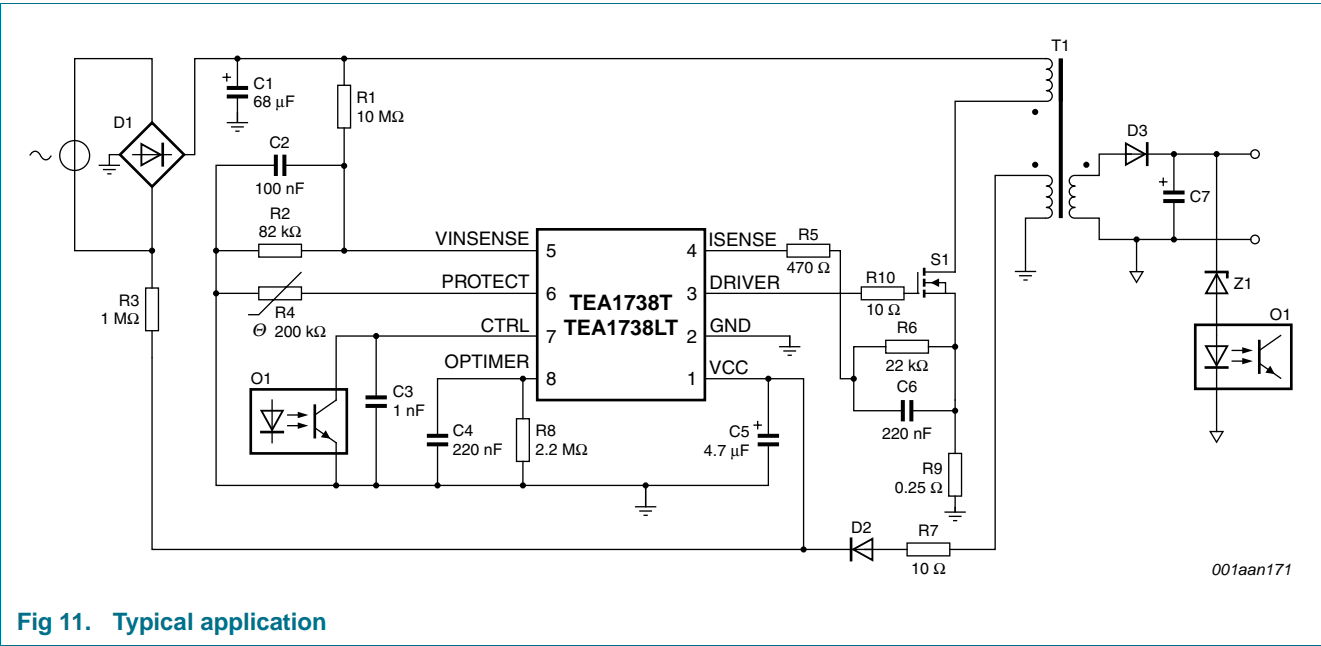

Fig 11. Typical application
A power supply with the TEA1738(L) is a flyback converter operating in Continuous conduction mode (see Figure 11).
In the example shown in Figure 11, the PROTECT pin is used for OTP. The OTP level is set by Negative Temperature Coefficient (NTC) resistor R4. If an (additional) external OVP is required, a Zener diode can be connected between the VCC pin and the PROTECT pin.